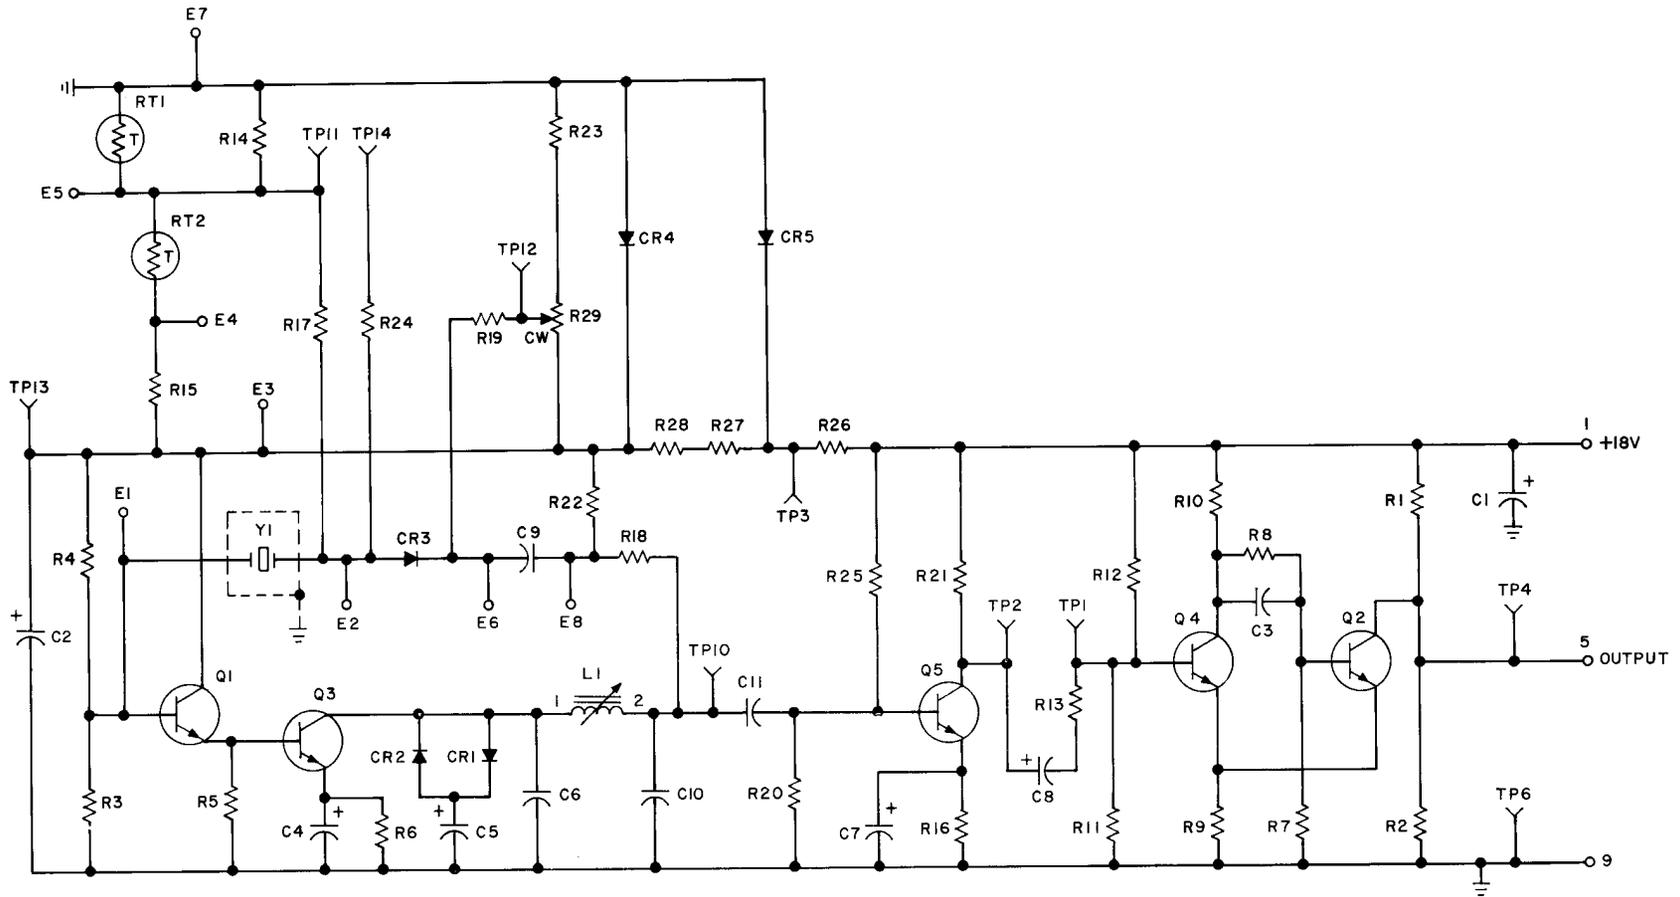

Fig. 79A — 65A Oscillator, Circuit Pack Assembly, Circuit Sketch
13.01A *Circuit Description:* The 65A oscillator is a stable time base generator. Timing signals are generated by a crystal oscillator, buffer-amplified and shaped in three circuit stages. A circuit sketch is illustrated in Fig. 79A.